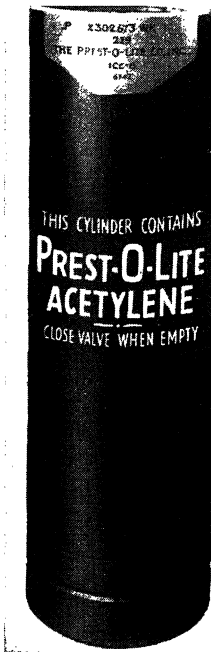

FIG. 11.—Acetylene tank. (Courtesy of Linde Air Products Co.)
**The acetylene tank** (Fig. 11) is occasionally a more practical gas dispenser, although it is more economical to use acetylene gas directly from the carbide generator.